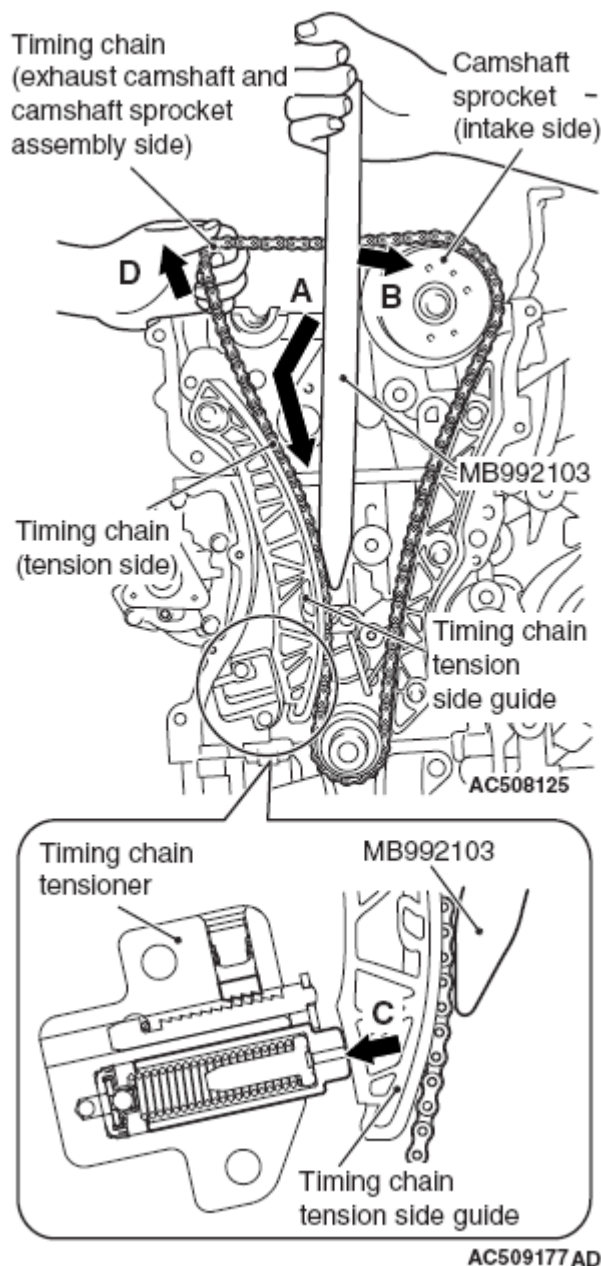

Fig. 48: Pulling Camshaft And Camshaft Sprocket Assembly (Exhaust Side)
3. With the timing chain tensioner unlocked, insert special tool MB992103 inside the timing chain case assembly along the tension side of the timing chain until the insertion guide line aligns with the upper surface of the timing chain case assembly ("A" in **Fig. 48**.)
4. With the special tool inserted up to the insertion guide line, press the special tool MB992103 against the intake side camshaft sprocket ("B" in **Fig. 48**) and spread and hold the timing chain tension side guide ("C" in **Fig. 48**.)
6. Pull up the camshaft and camshaft sprocket assembly (exhaust side) mounting area of the timing chain ("D" in **Fig. 48**) to provide allowance for easy installation of the camshaft and camshaft sprocket assembly (exhaust side) to the timing chain.